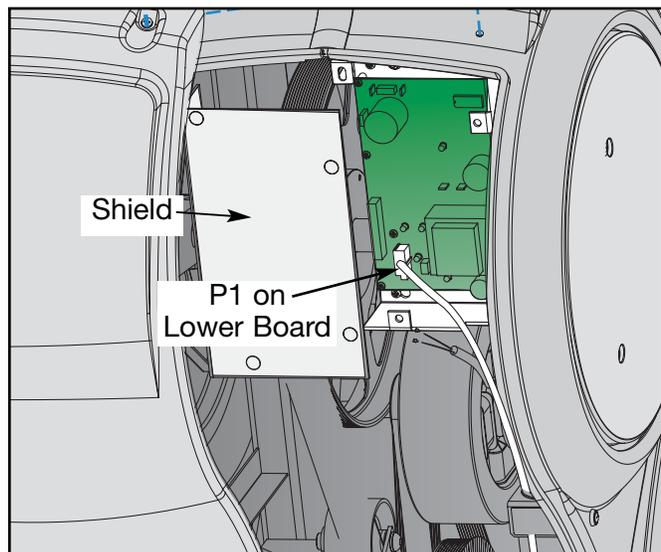

Figure 31
- B. Disconnect the display cable from the lower board. See Figure 31.
- C. Remove the lower display cable from the wire holder bracket. See Figure 31.